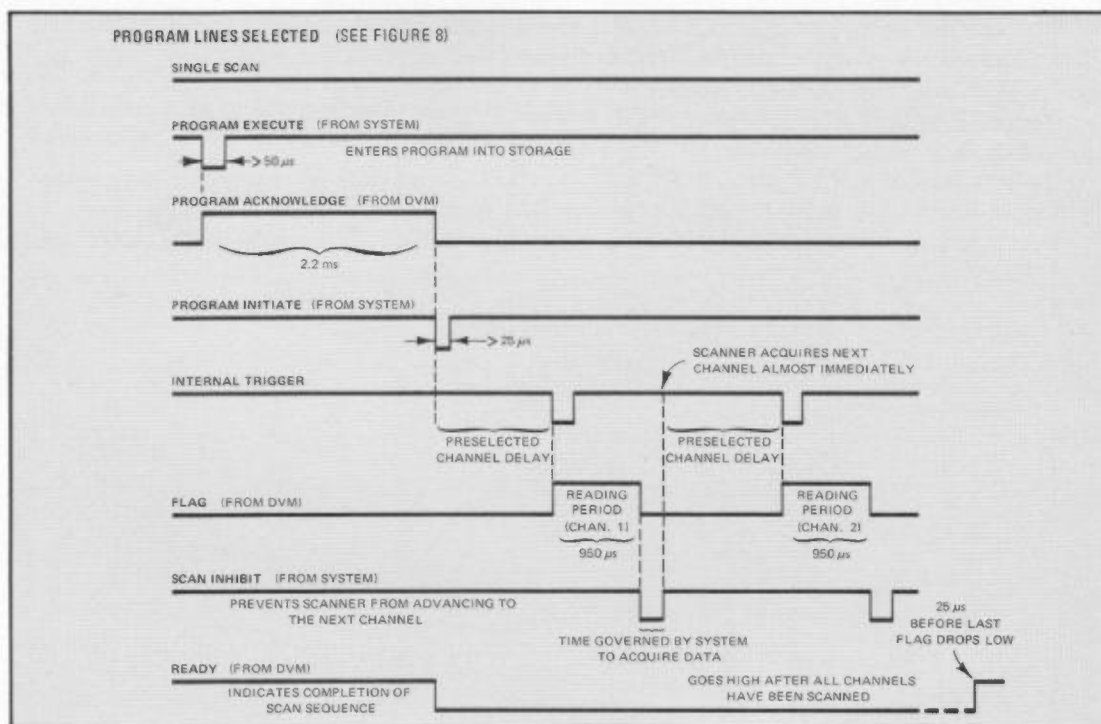
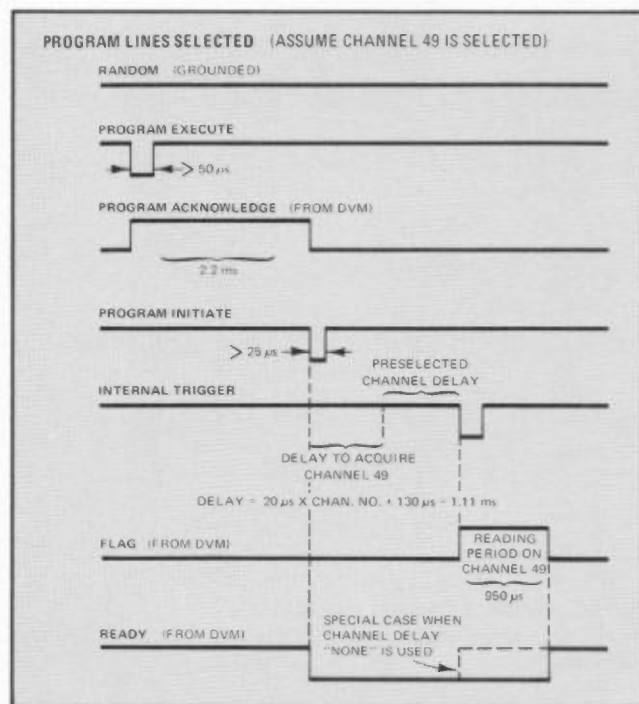

FIGURE 7
FIGURE 8
- **PROGRAM INITIATE** starts the scan sequence. **READY** indicates when a sequence has been completed. Figure 7 gives an example in the **SINGLE SCAN** mode and Figure 8 shows operation in the **RANDOM** mode.